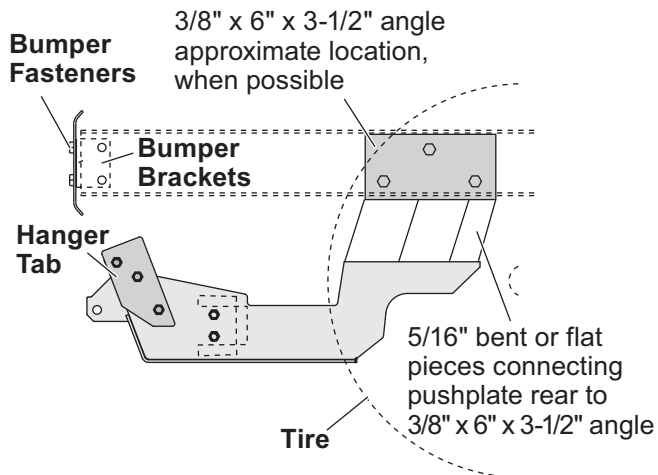

Figure 3
9. Fabricate the pieces needed to attach the rear of the pushplate to the bottom of the 3/8" angle. Use the 5/16" flat bar stock provided. Multiple pieces can be used to produce the desired width. A minimum width of 10" is suggested when possible (see Figure 3).